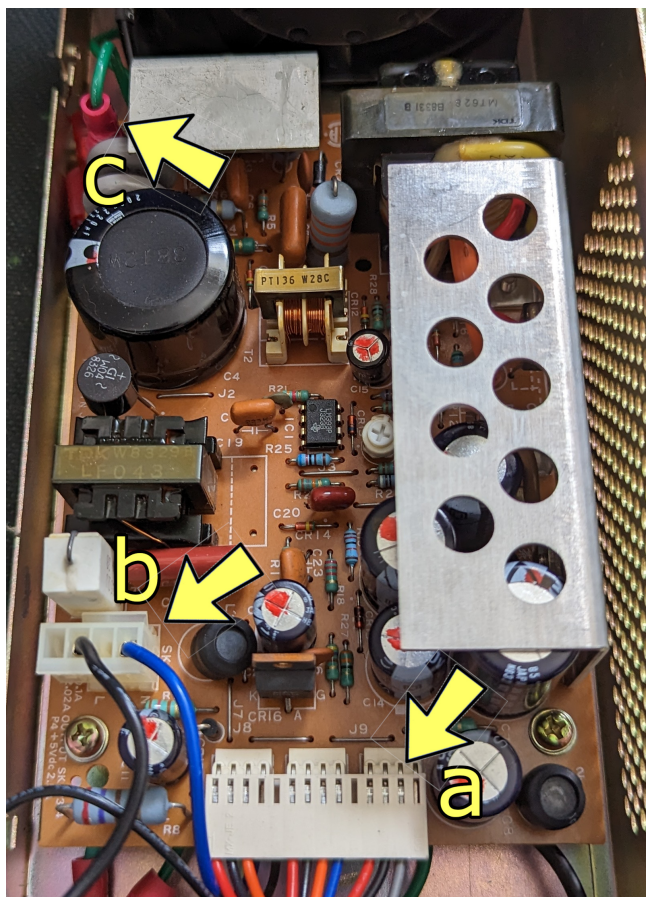

Figure 1.1: PSU connector positions.
3. Disconnect the motherboard (a), mains (b), and ground (c) connectors, as shown in Figure 1.1 below.